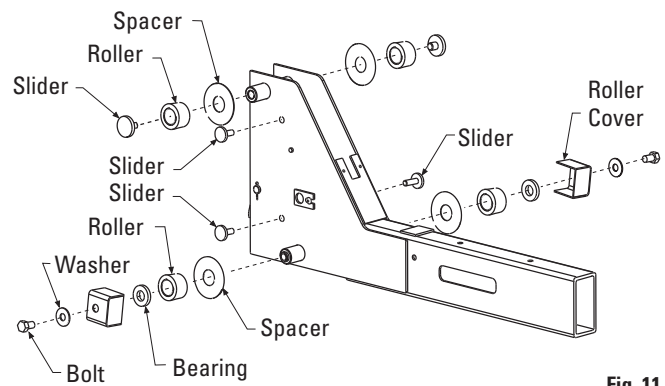

Fig. 11
7. Front Yoke Roller Assembly: Assemble yoke rollers and bearings for both front yokes, Fig 11.